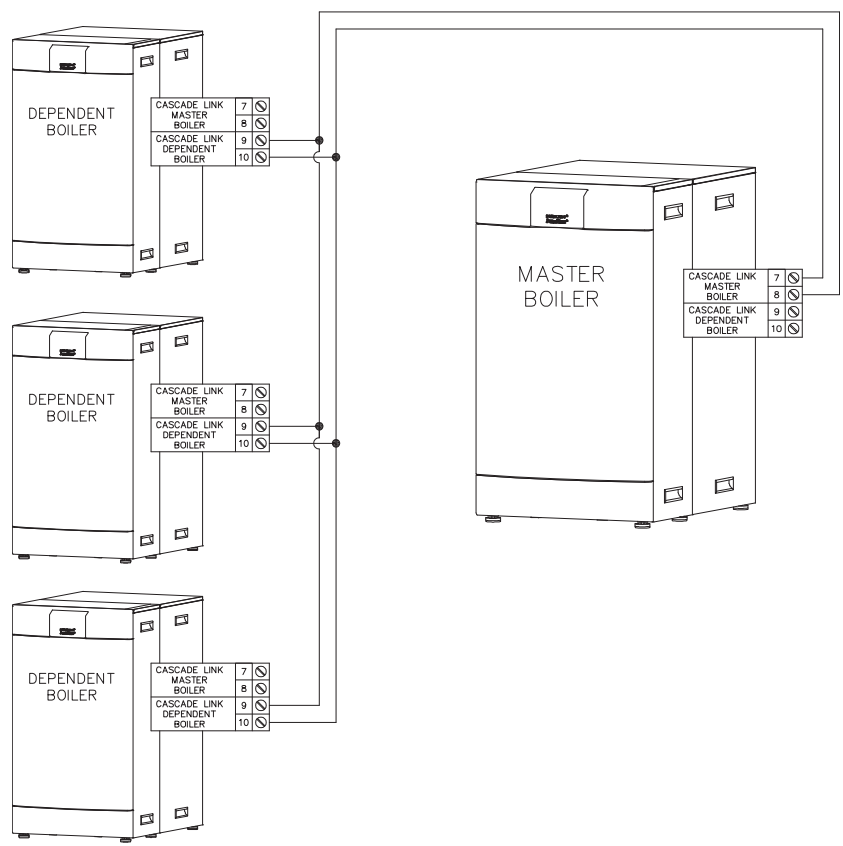

Figure 8.53: Mutple Boiler Wiring – Daisy Chain Configuration
- a. Figure 8.53 shows a daisy chain configuration. This method is convenient but can lead to more than one boiler shutting down in the case of an open circuit.